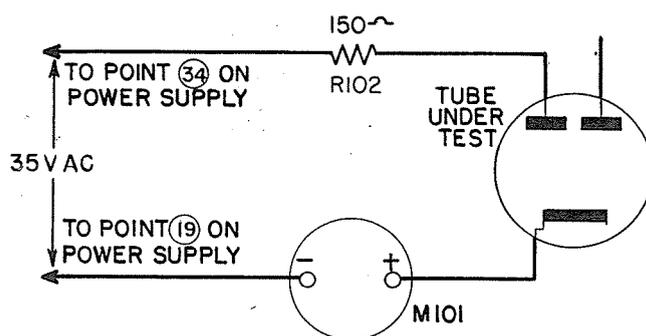

Figure 2-6. Simplified Rectifier Test Circuit
## 7. RECTIFIER TEST. (See figure 2-6).
e. Pressing the button P6 sets up a circuit similar to figure 2-6, but a higher voltage is applied, 330 volts ac, for testing rectifier of the cold cathode type such as the OZ4.
f. Pressing button P2 also establishes a circuit similar to figure 2-6, but a lower voltage, 20 volts ac, is used to protect the delicate cathodes of diode detector types such as the 6H6.